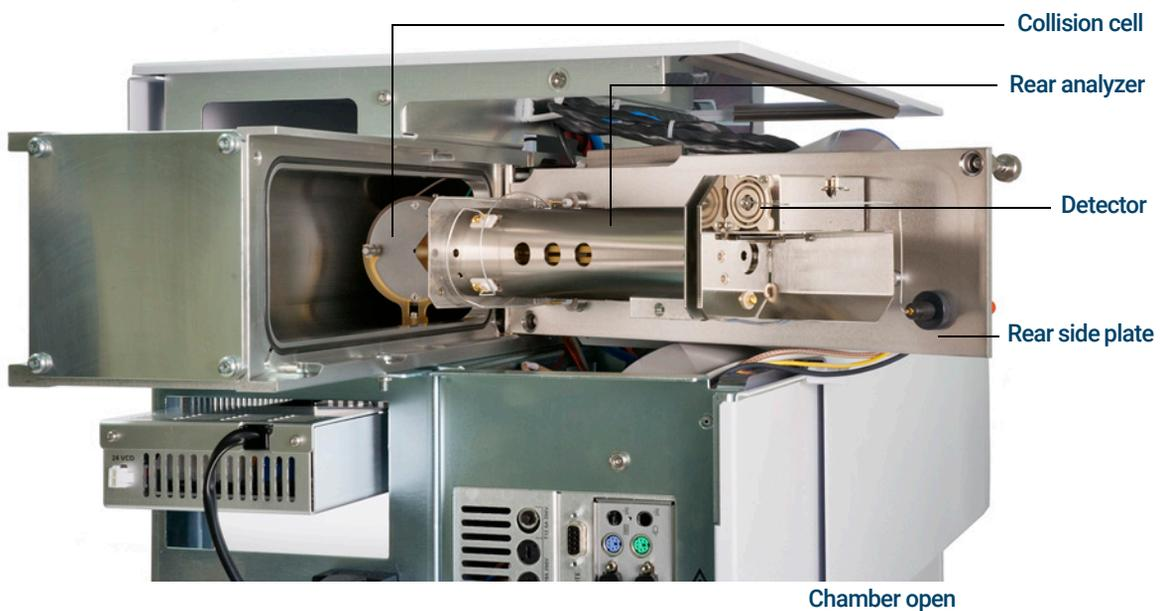

Figure 72. The rear analyzer chamber
- 4 Loosen the rear analyzer side plate thumbscrews, if they are fastened. (See Figure 72 on page 223.)